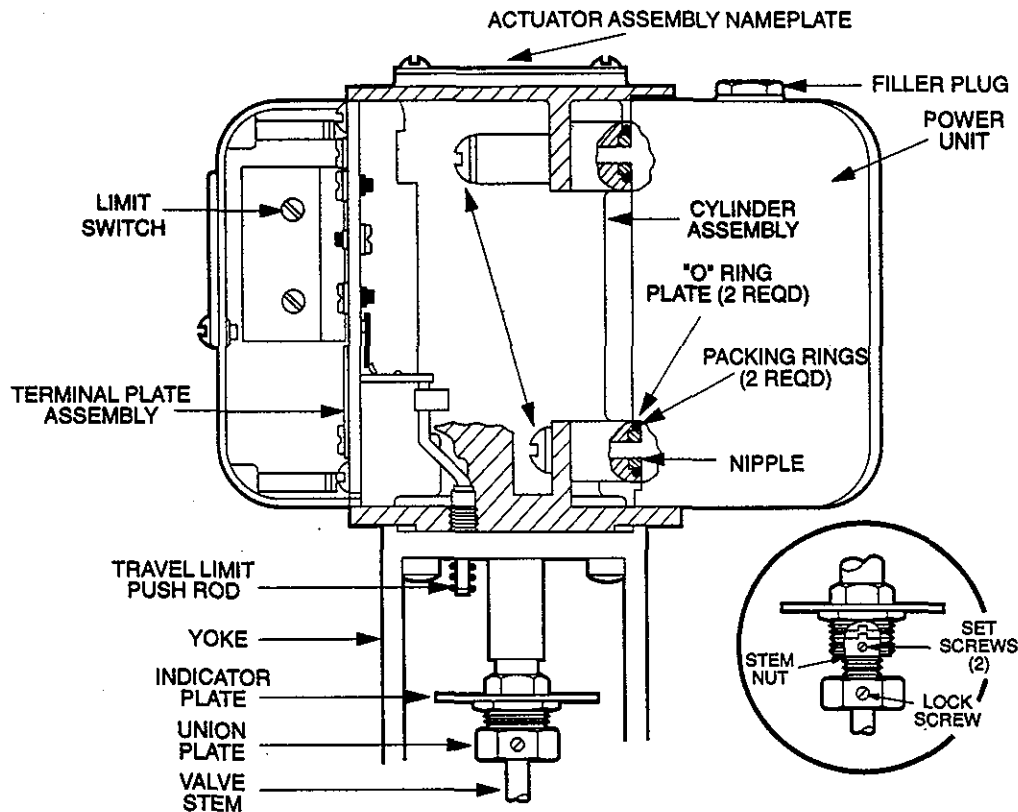

Figure 4. H10 Cross Section
1. Loosen lock screw, unscrew union nut to detach valve stem from actuator shaft (see Figure 4, Detail A).